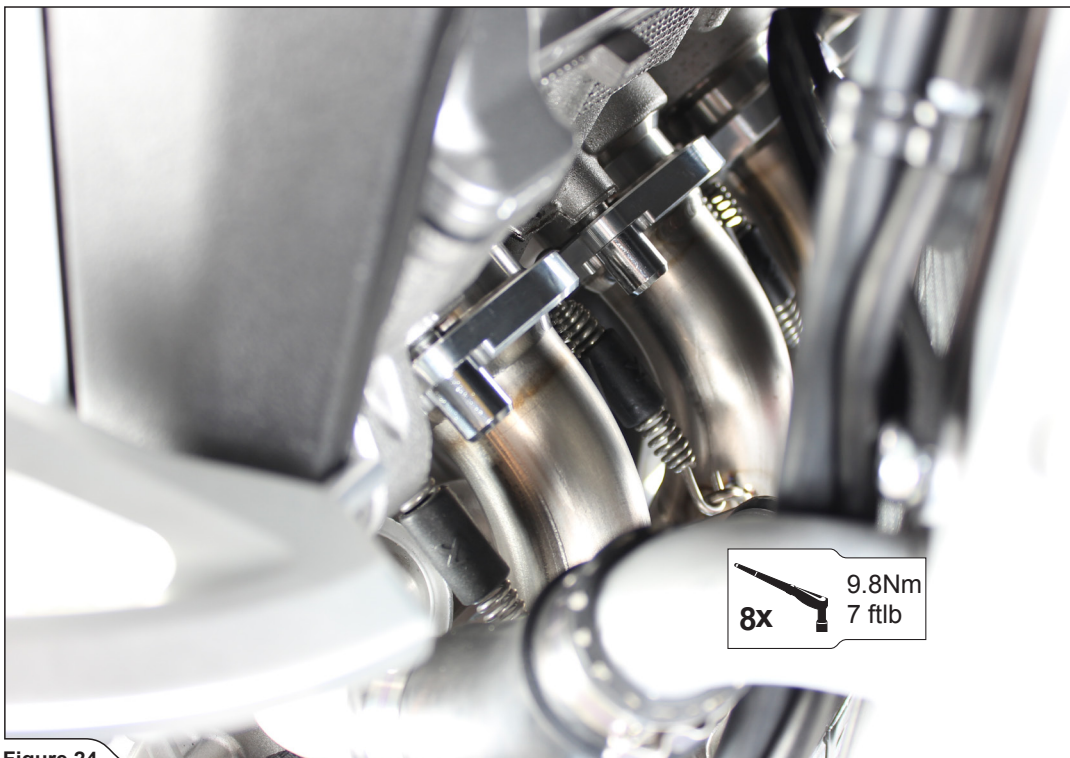

Figure 24
- Insert the headers into the sleeves, attach the springs, install the link-pipe bracket using nut from Akrapovič installation kit and stock bolt and washer. Attach lambda sensors and tighten the flanges, bracket bolt and both lambda sensors to specified torques (Figure 24, 25, 26).